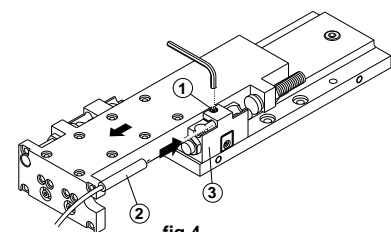

fig 4
#### Adjustment of limit switch (ES), fig 4
1. Loosen M3 clamping screw (1).
2. Slide limit switch (2) from rear into stop block guide (3) up as far as stop.
3. Retighten clamping screw (1).
4. Connect limit switch (2) to electricity supply.